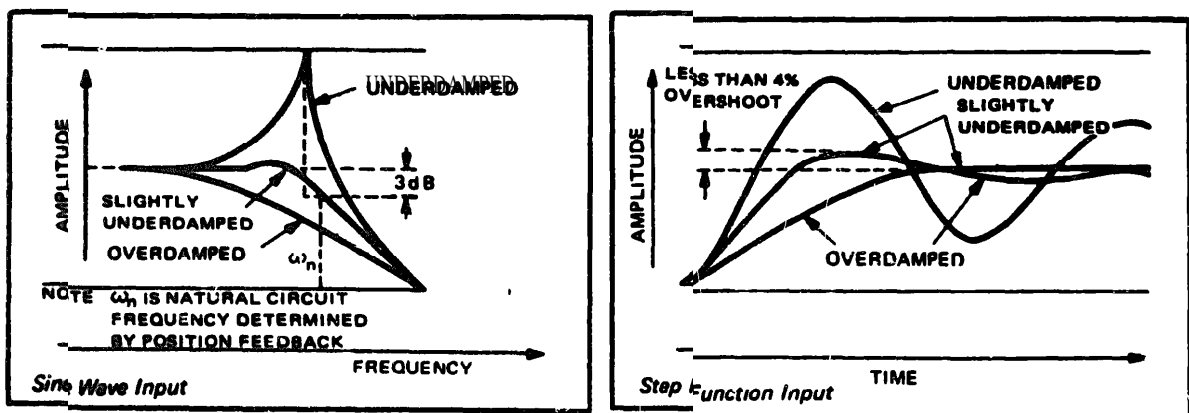

Figure 4-5. Galvanometer Damping
4-30. **DAMPING.** Damping is a force that is (1) proportional to galvanometer velocity and (2) opposite to the direction of pen motor velocity. Figure 4-5 shows the effects of damping on frequency response and transient response, where underdamping produces peaked and oscillatory waveforms, and overdamping diminishes response. An optimum condition of slight underdamping results in less than 4% overshoot, typically about 1.5%.